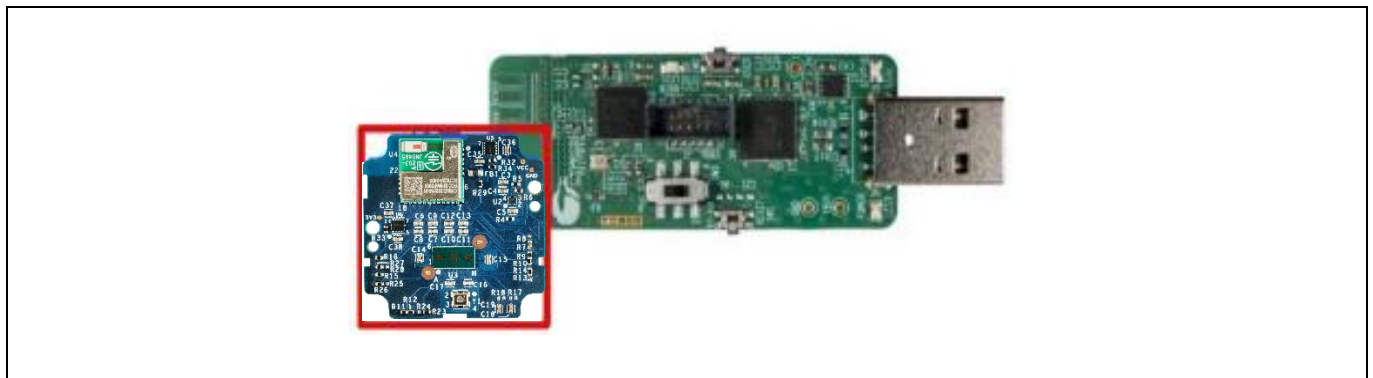

Figure 8 Connect the XENSIV™ Wireless Presence Detection Sensor to the programming dongle
1. Remove the XENSIV™ Wireless Presence Detection Sensor PCB from the enclosure and attach it to the programming dongle. JTAG header J3 on the radar sensor will connect to JTAG header D4 on the programming dongle. Connection should be made such that pin 1 of D4 on the programming dongle will be mated to pin 2 of J3 on the XENSIV™ Wireless Presence Detection Sensor J3 connector. See Figure 8 for the proper position. Battery power is not needed, as power and ground connections will be supplied by the dongle when it is connected to the USB port on the computer.